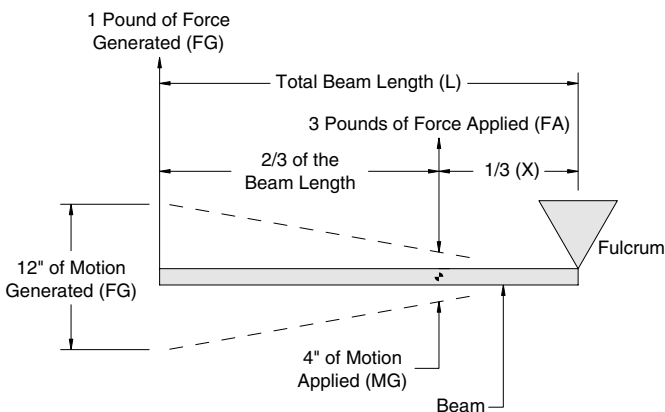

Figure 2-6 Third Class Lever
Figure 2-6 shows a third class lever. A third class lever is similar to a second class lever, except the points at which the force is applied and the force is generated are reversed. The force is applied at a point between the fulcrum and the force generation point. By manipulating the point of force along the beam a certain amount of mechanical advantage can be achieved. Placing 3 pounds of force (FA) at the point within the beam, 1 pound of force (FG) is generated at the left end of the beam. The amount of travel is also transformed. In the illustration, 12 inches of motion (MG) on the left end of the beam is generated when 4 inches of motion (MA) is applied at the point within the beam. To calculate both force and motion the formula is: